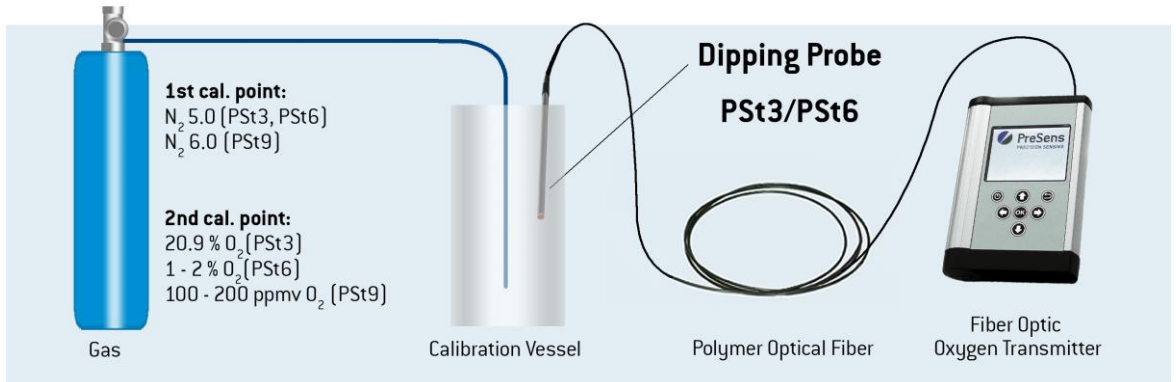

Fig. 7 Calibration set-up: Two-point calibration of a dipping probe with dry gases
Use nitrogen-saturated atmosphere as calibration standard **cal 0**. Use a certified test gas N₂(5.0) (suppliers are e. g. Air Liquide, Linde Westfalen AG). Lead the gas directly into the calibration vessel with the dipping probe in it (see Fig. 7). Then follow the instructions in the respective transmitter manual.
Lead the gas directly into the calibration vessel with the dipping probe in it (see Fig. 7). Then follow the instructions in the respective transmitter manual.
- Use nitrogen-saturated atmosphere as calibration standard **cal 0**. Use a certified test gas $N_2(6.0)$, and lead the gas directly into the calibration vessel with the dipping probe in it (see Fig. 7). Then follow the instructions in the respective transmitter manual.